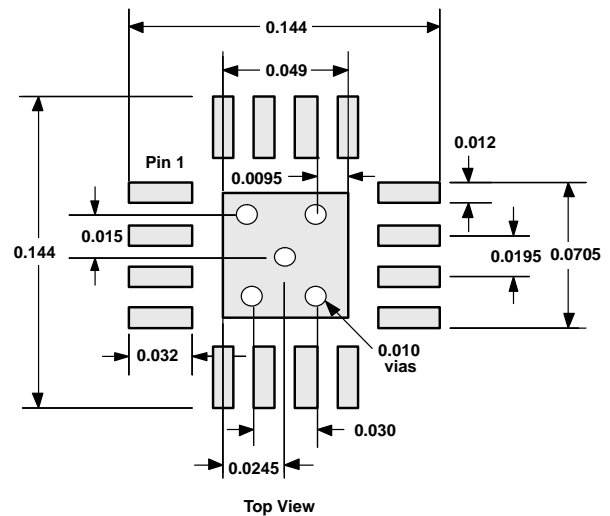

Figure 91. QFN Etch and Via Pattern
9. The THS4509 recommended PCB footprint is shown in Figure 91.